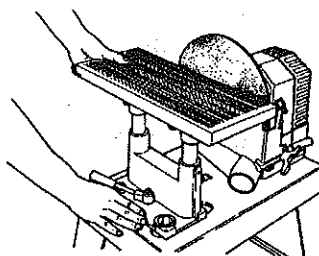

Fig.H-6
8. Unlock the carriage and slide it and the Extension Table to within 1/16" of the Disc Sander. See Fig.H-6.